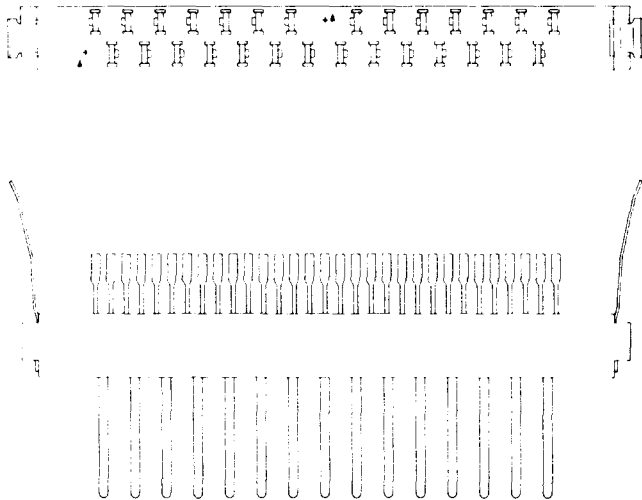

Fig. 5—924C or D Connector
2.07 924C and D: The 924C and D connectors (Fig. 5) consist of a molded housing of colored insulating material containing 28 terminals. The terminals on the terminal end are arranged for mechanically wrapped connections with 22- through 26-gauge wire. These connectors are made for insertion into the 918A or 921A connectors. The 924C and D connectors are used in the No. 101 ESS.